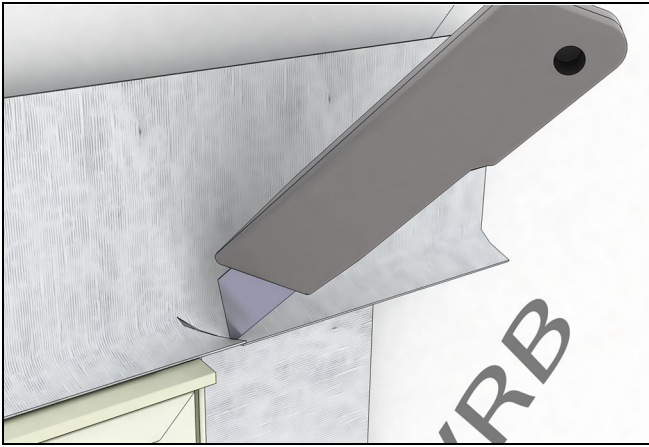
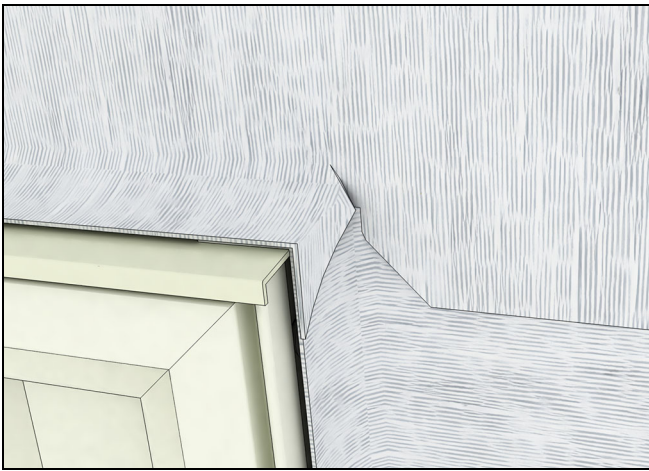

Figure 276
Figure 277
7. Install another layer of adhesive membrane lapping onto the rigid head flash of the window and over the sheathing. The membrane flashing at the head jamb should extend and cover the flashing previously installed at the jambs. Make relief cuts and fold down so that it wraps around the jamb. See Figure 276 and Figure 277.